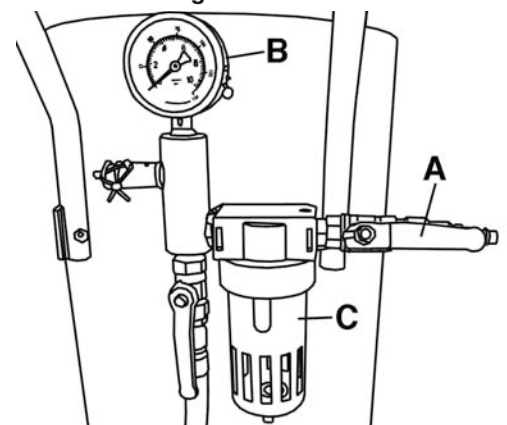

Figure 8
Before loading abrasive into tank, make sure it is perfectly dry, or else it will clog the meter valve, the media hose and other components. Make sure the air supply valve (A) Fig.8 is in the off position (horizontal) and that the air pressure gauge (B) reads zero as shown in Fig.8.